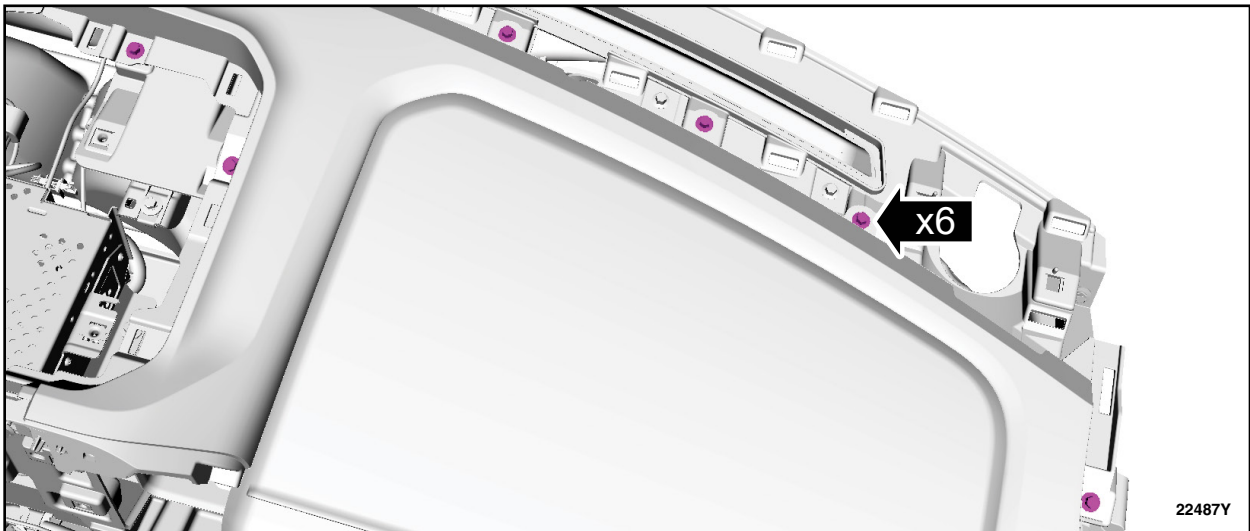

FIGURE 23
24. Remove the RH instrument panel upper section bolts. See Figure 23.